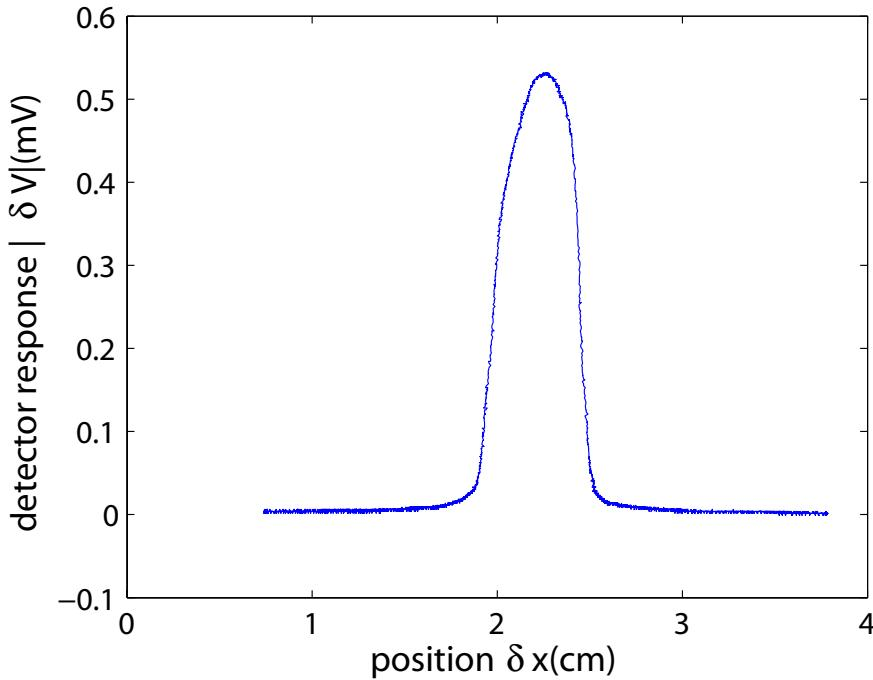

Figure 45: Graph of beam profile for a scan from $x=1\text{cm}$ to $x=4\text{cm}$.
- **Scan of the laser beam profile.** The software should be set to "CH1 vs. CH0". Click the switch so that it is in "continuous" mode. Set the sweep rate to 0.01 sec, or 100 samples per second. Start at $x = 1\text{cm}$ and turn the handle counterclockwise at a slow rate (3sec/turn) so that the voltage change can fully respond to the filter connected on the photodiode's output. Start the measurement with the computer and slowly move the linear translator from $x=1\text{cm}$ to $x=4\text{cm}$. Plot the beam profile in Excel by plotting the CH0 voltage on the x-axis and the CH1 voltage on the y-axis. Figure 45 shows what the graph should look like. Also, you can use this data set as your position to voltage conversion since your scan went from $x=1\text{cm}$ to $x=4\text{cm}$. This portion will not be required in your report, however you may want save the data to file for voltage position conversion.